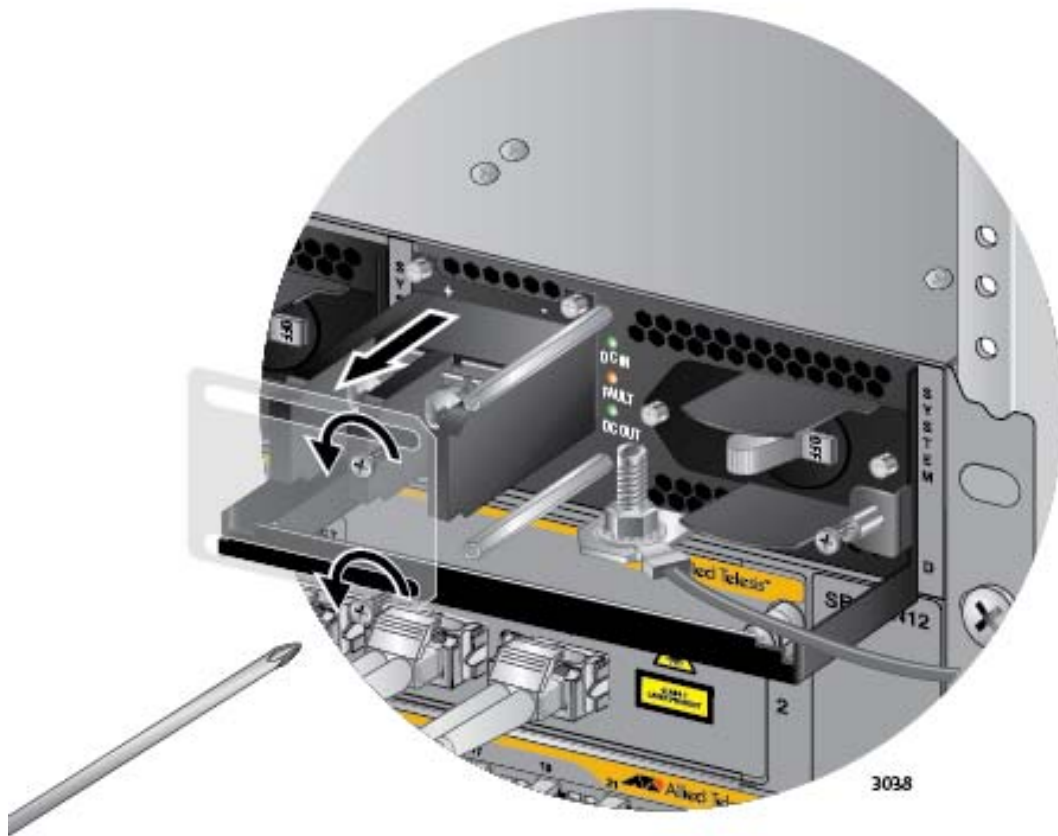

Figure 127. Removing the Plastic Cover
4. Using a #1 Phillips-head screwdriver, remove the two screws that secure the plastic cover over the positive and negative terminals and remove the plastic cover from the power supply, as shown in Figure 127. You may need to lift the locking handle slightly to access the bottom screw.